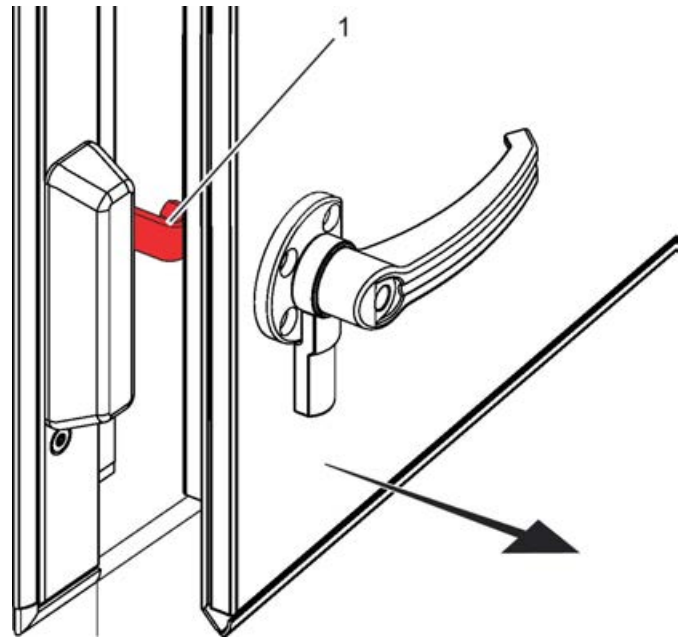

Fig. 17: Safety catch
2. ▶ Carefully open the inspection access door until it is caught by the safety catch (Fig. 17 /1).